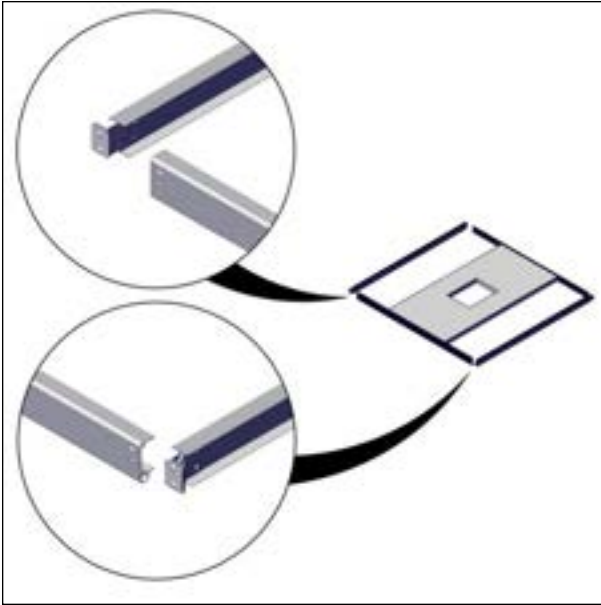
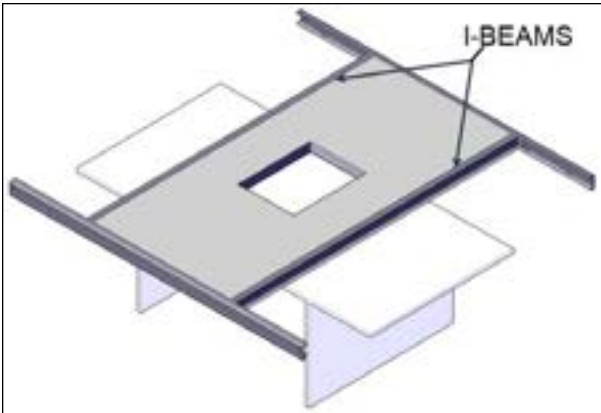
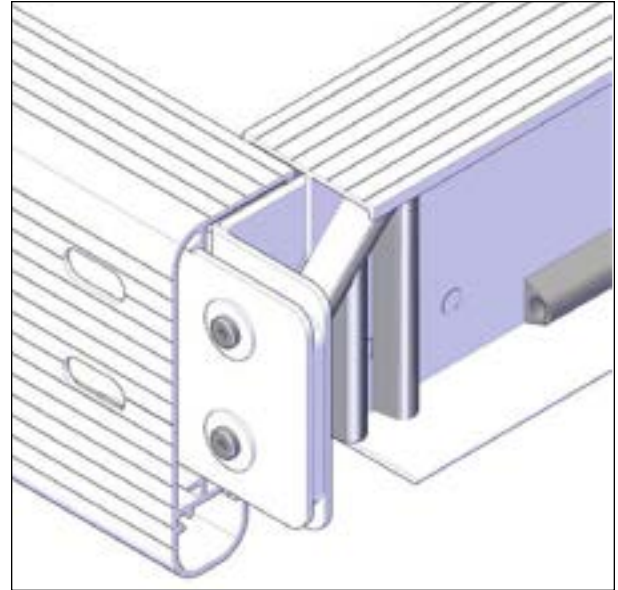

FIGURE 38: SLIDE WITH LIP OUTWARD
FIGURE 39: I-BEAM FINAL POSITIONS
FIGURE 40: C-CHANNELS / I-BEAM INSTALLATION
3. Slide one I-beam with short I to C connection plates in the C-channels on both sides of the middle panel. Install the I-beams in such manner where the bent portion of I to C connection is pointing outwards see Figure 38, Figure 39 and Figure 40.